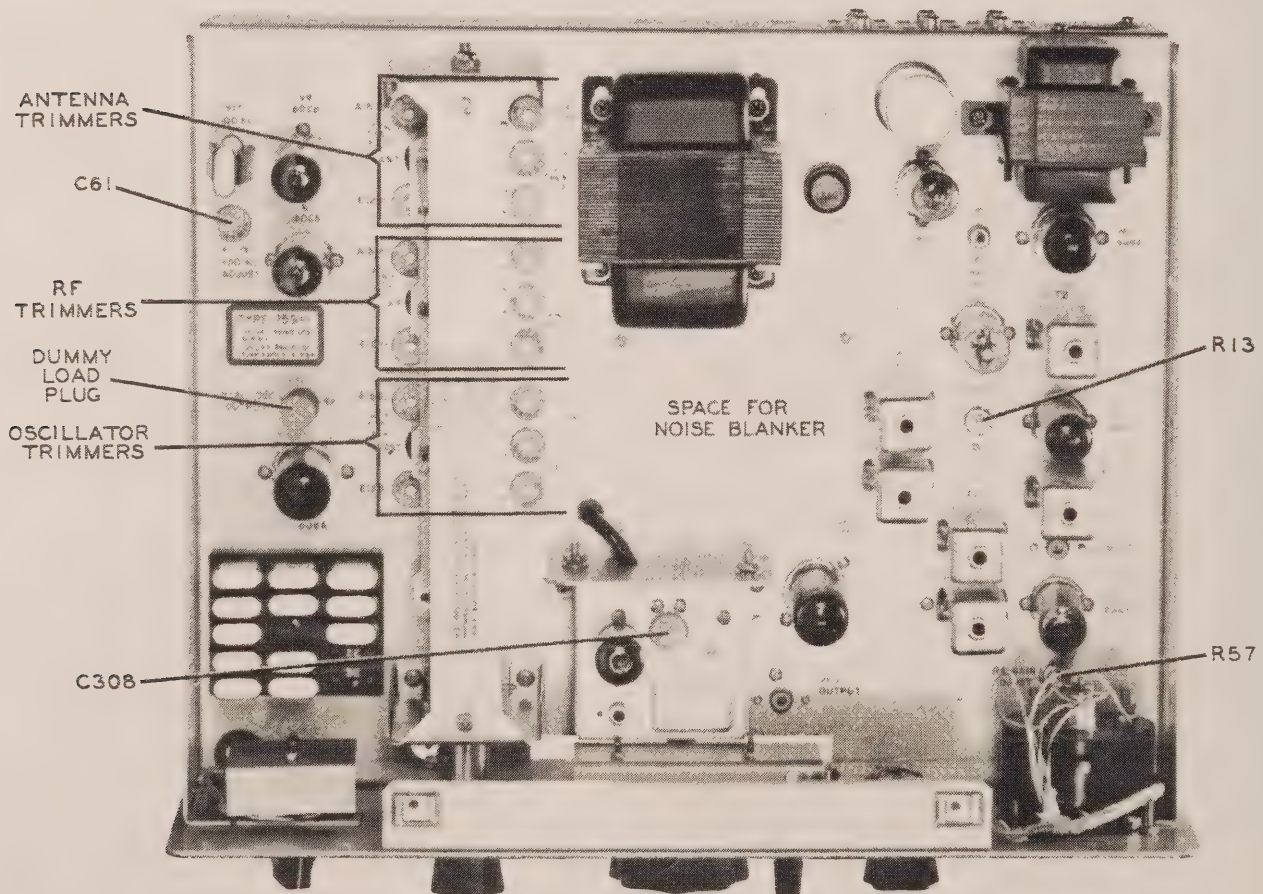

Figure 4-1. Location of Adjustments
4.4 ALIGNMENT PROCEDURE. (Refer to figure 4-1.)
4.4.3 R-F CIRCUIT ALIGNMENTS. (Refer to figure 4-1 for trimmer identification.)
- f. Peak the OSC E(28) trimmer for maximum vtvm indication.
- g. Peak the RF E(28) and ANT E(28) trimmers for maximum S-meter indication.
- h. Set BAND switch to 21.0 and PRESELECTOR to 8.0 on logging scale. Adjust the OSC D(21) trimmer for maximum vtvm indication. Adjust RF D(21) and ANT D(21) trimmers for peak S-meter indication.
- i. Set BAND switch to 14.2 and PRESELECTOR to 6.9 on logging scale. Adjust OSC C(14) trimmer for peak vtvm indication. Adjust RF C(14) and ANT C(14) trimmers for peak S-meter indication.